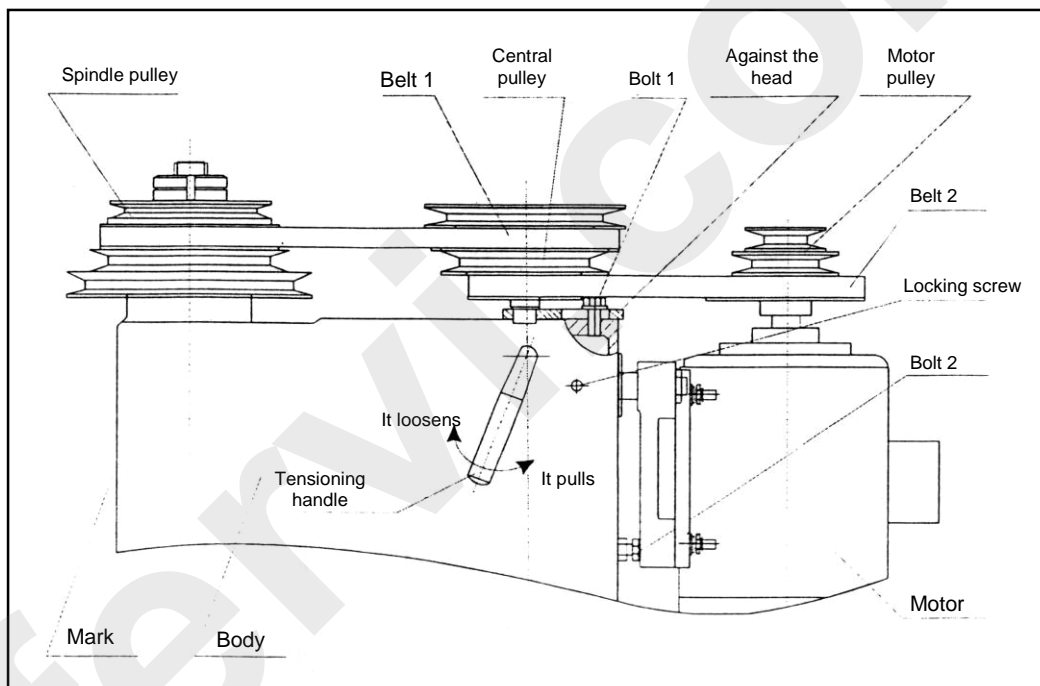
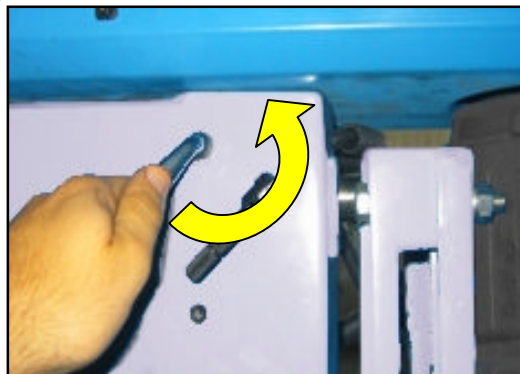

Figure 9 - Main items of the power transmission system.
Figure 12 - Loosening the belt tension.
For a better understanding, see also the following drawing (figure 9).
5. Loosen the tension of the belts by turning the tensioning handle clockwise, as shown in figure 12 and in figure 9.